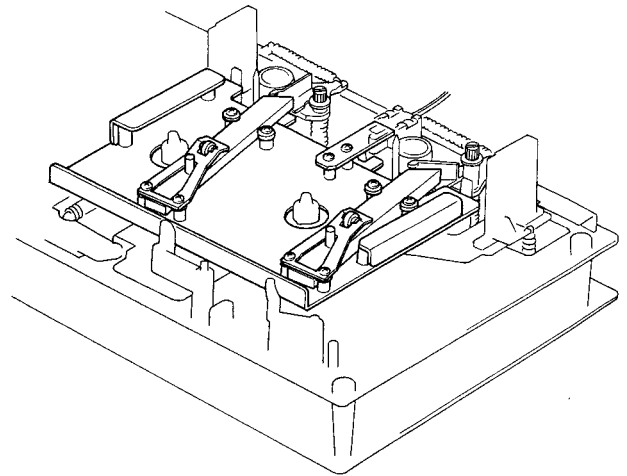

Fig. 4.8
Remove Head Mount Base Ass'y referring to item 2.23. Refer to Figs. 4.8 and 4.9.